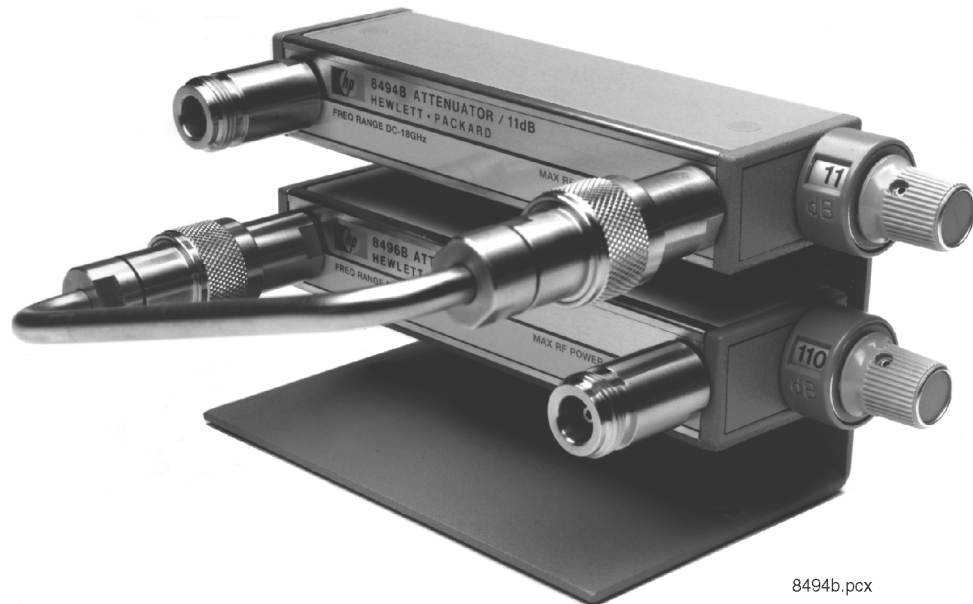

Figure 1 *Typical Installation*
6. If no sheet metal base is being used, the adhesive-backed felt feet that are supplied may be attached to the underside of the bracket to prevent marring the surface on which the combined attenuators are set. Figure 1 shows how the interconnection kit is typically used.